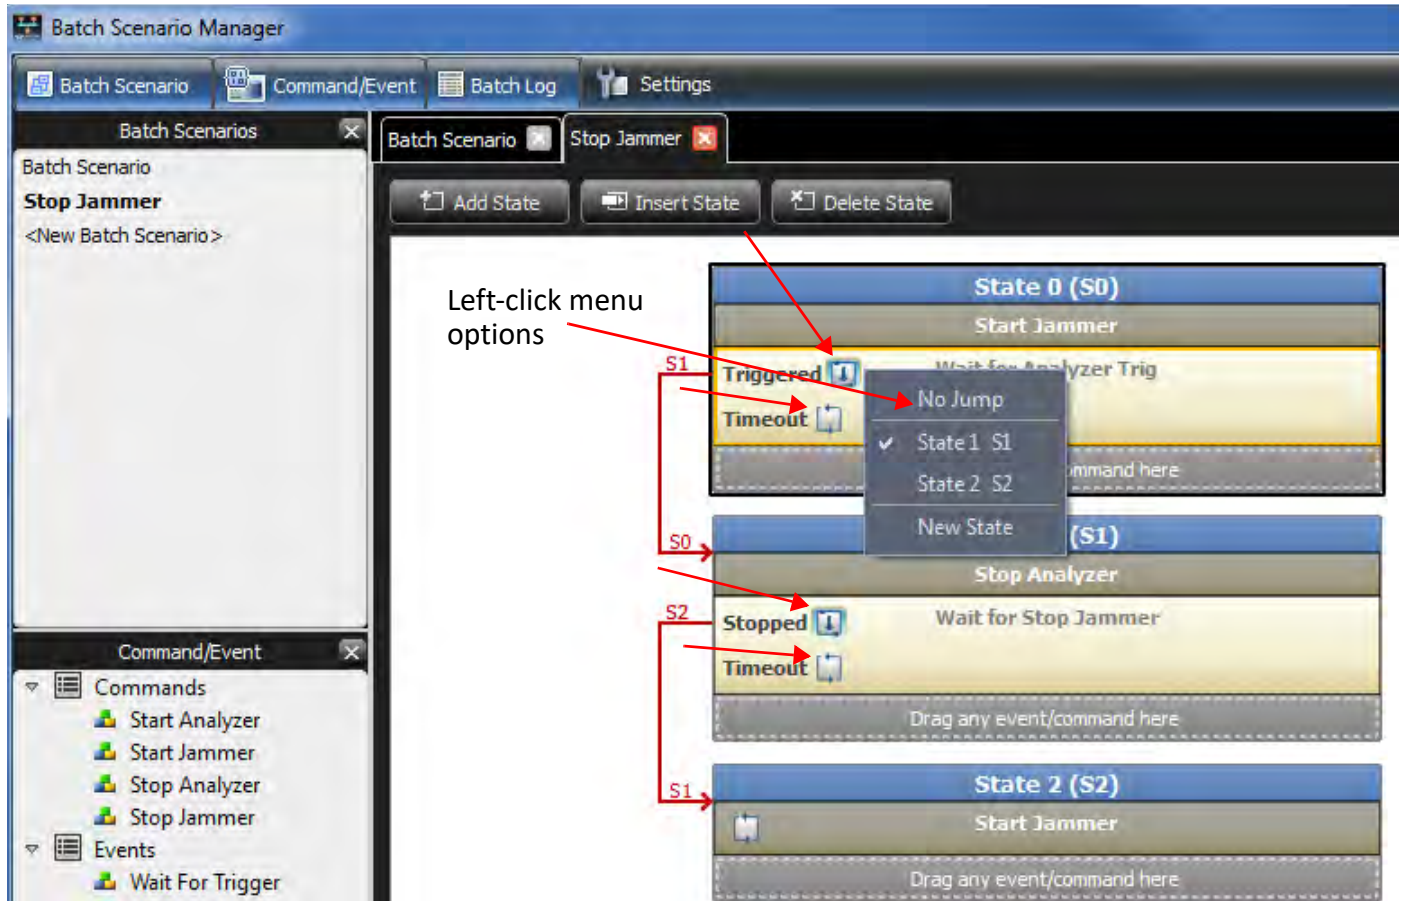

Figure 7.13: State Transition
2. Click the menu options to display as shown in Figure 7.13 and select the state to transition to.